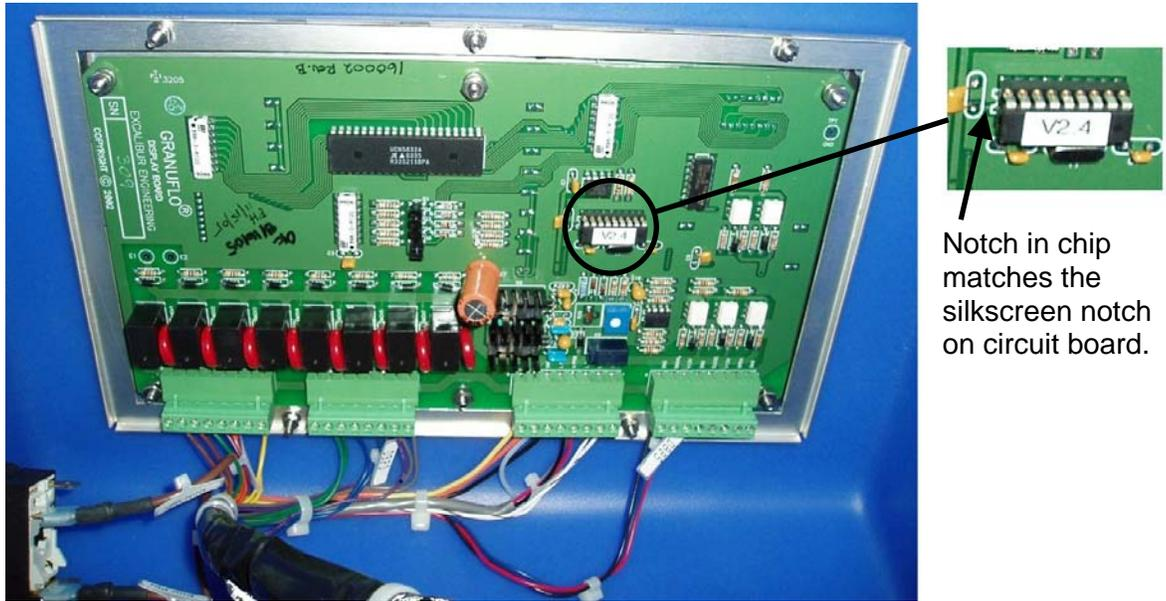

Figure 3
- Using a chip pulling tool, locate and carefully remove the software chip from the controller board. See Figure 3 for location and chip orientation.
- Using the notch in the chip as reference (see Figure 3), install the new software chip into the now empty socket on the controller board. When inserting the chip, take care that none of the pins bend or miss their respective socket hole.